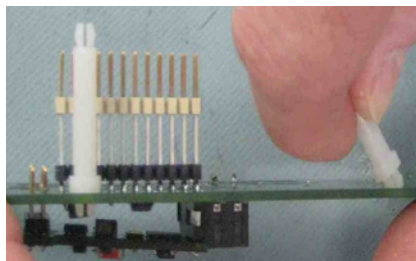

Figure 1
1. Insert the 2 plastic standoffs in the 2100DC Digital Communication Module, as demonstrated in Figure 1.